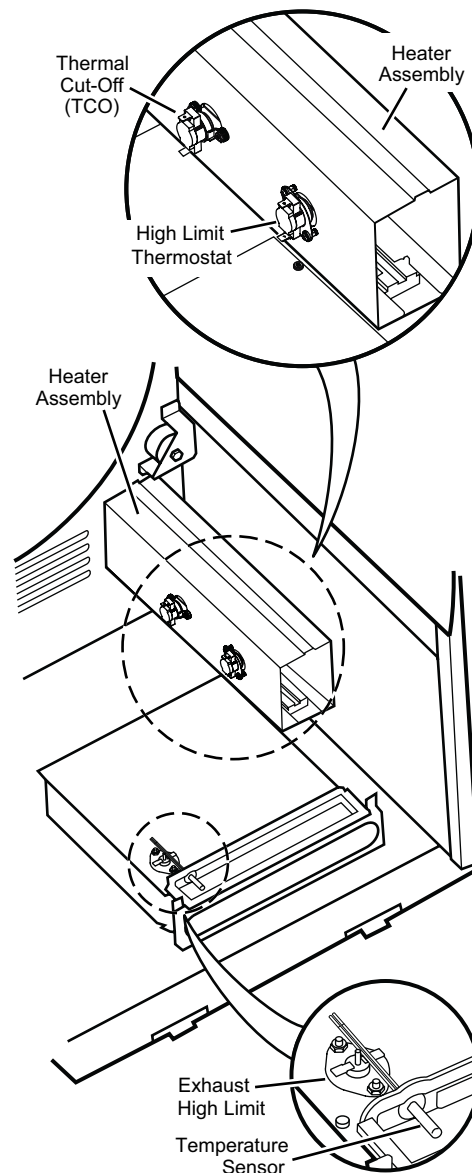

Figure 5. Thermal Components, viewed from front.
6. Check the resistance value of the motor capacitor. See Figure 5 for location.
2. Remove the toe panel to access the thermal components. See Removing the Toe Panel, page 6-14. Locate the components using Figure 5.
4. Locate the high limit thermostat. See Figure 5. Measure the continuity through it by connecting the meter probes to the red and black wires.
5. Locate the thermal cut-off (TCO). See Figure 5. Measure the continuity through it by connecting the meter probes to the red wires.
- Check wire connections at the machine control electronics and temperature sensor. See Accessing & Removing the Electronic Assemblies, page 6-12, and Figure 5 for temperature sensor location.